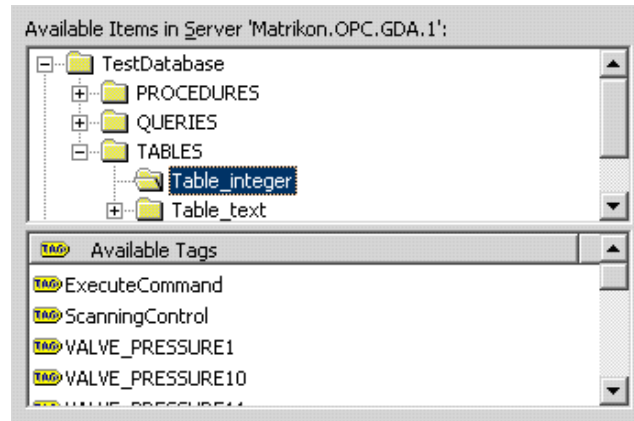

Figure 105 - Available Items/Tags Screen Sections
12. Items will appear listed in the **Available Tags** screen section (Figure 105).